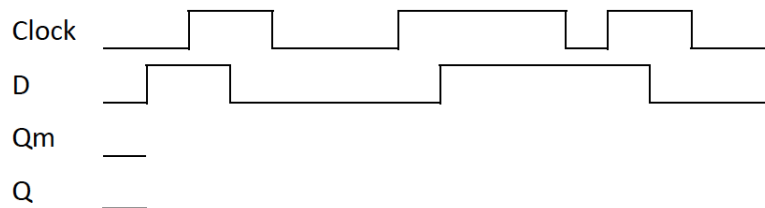

Fig.4: Time diagram for Master-Slave Flip-Flop.
4. Draw **Qm** and **Q** signals on the given time diagram in Fig. 4, and add it to your report.